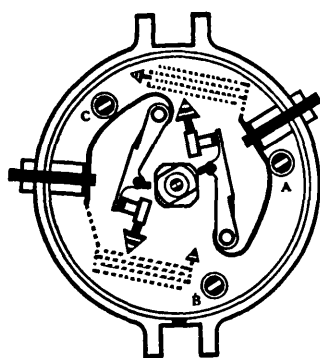
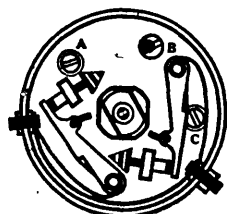

Fig. 1
Fig. 2
C.—This adjustment is made by slightly moving the "CONTACT POINT MOUNTING PLATE". On early models this plate is shifted within small limits after first loosening the three screws (A, B, C—Fig. 1) securing it to distributor housing, and allowing plate to pivot on screw (A) nearest oiler. On later models an ECCENTRIC ADJUSTING SCREW (B) is provided which moves but one breaker assembly after loosening screws A and C (Fig. 2).